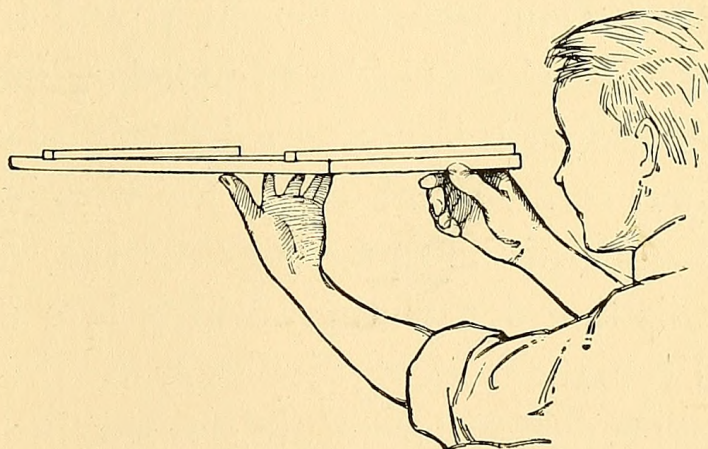

FIG. 73. — Testing with Winding-sticks.
**Winding-sticks** (Fig. 73). Get two pieces of square molding of exactly the same size for the sticks. To make the test, place both sticks across the board, one at the farther end and the other at the near end, and hold the board level and at the proper height to make the tops of the sticks upon a level with your eyes; sight across the